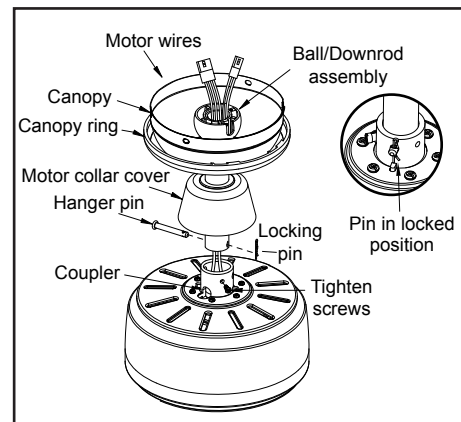

Figure 7
4. Route the wires exiting the top of the fan motor through the decorative motor collar cover then the canopy ring. Make sure the slot openings are on top. Route the wires through the canopy and then through the ball/downrod assembly. (Figure 7)
6. Align the holes at the bottom of the downrod with the holes in the collar on top of the motor housing. (Figure 7)
Carefully insert the hanger pin through the holes in the collar and downrod. Be careful not to jam the hanger pin against the wiring inside the downrod. Insert the locking pin through the hole near the end of the bolt until it snaps into its locked position, as noted in the circle inset of Figure 7.